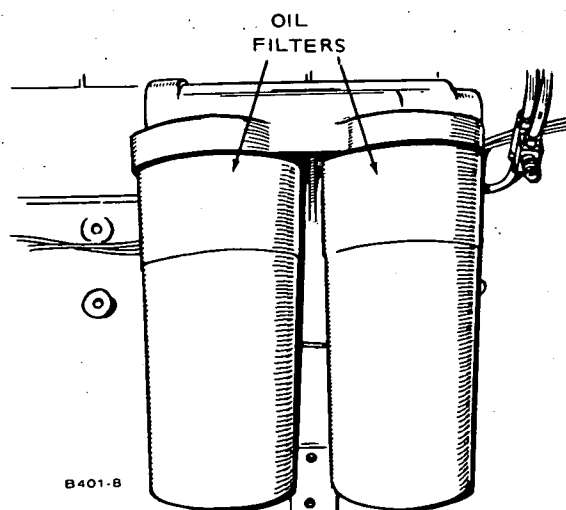

FIGURE 26. LUBRICATION OIL FILTER
1. Unscrew and discard filters (Figure 26).